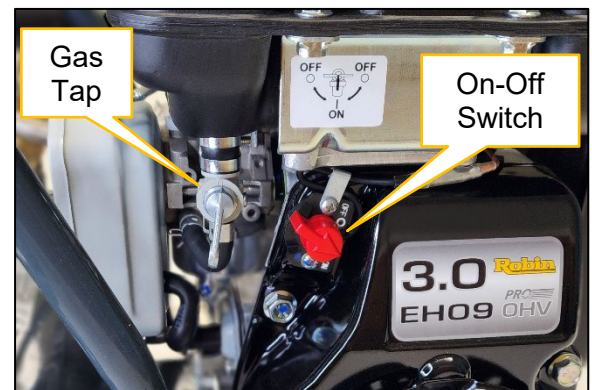

Figure 2. Gas tap and On-Off Switch.
- Open the gasoline tap so that fuel enters the engine (Figure 2).
- Turn ON the on-off switch (Figure 2).
- Turn the on-off switch to OFF (Figure 2).